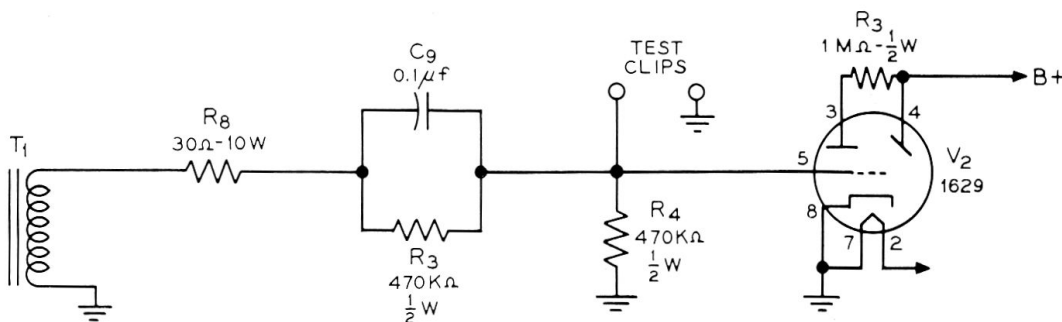

Figure 1 — "Short Test" Circuit
2.1 Fig. 1 shows the basic circuit of the SHORT test which operates as follows: If the test clips are shorted, the voltage at the grid of the "eye" tube is zero (maximum opening). If the clips are open, the entire voltage appears at the grid of the "eye" tube, which causes it to close. Thus a shorted capacitor will cause the "eye" to remain open, while a normal capacitor will cause it to close either partially or completely depending upon its reactance, and the circuit in parallel with it.